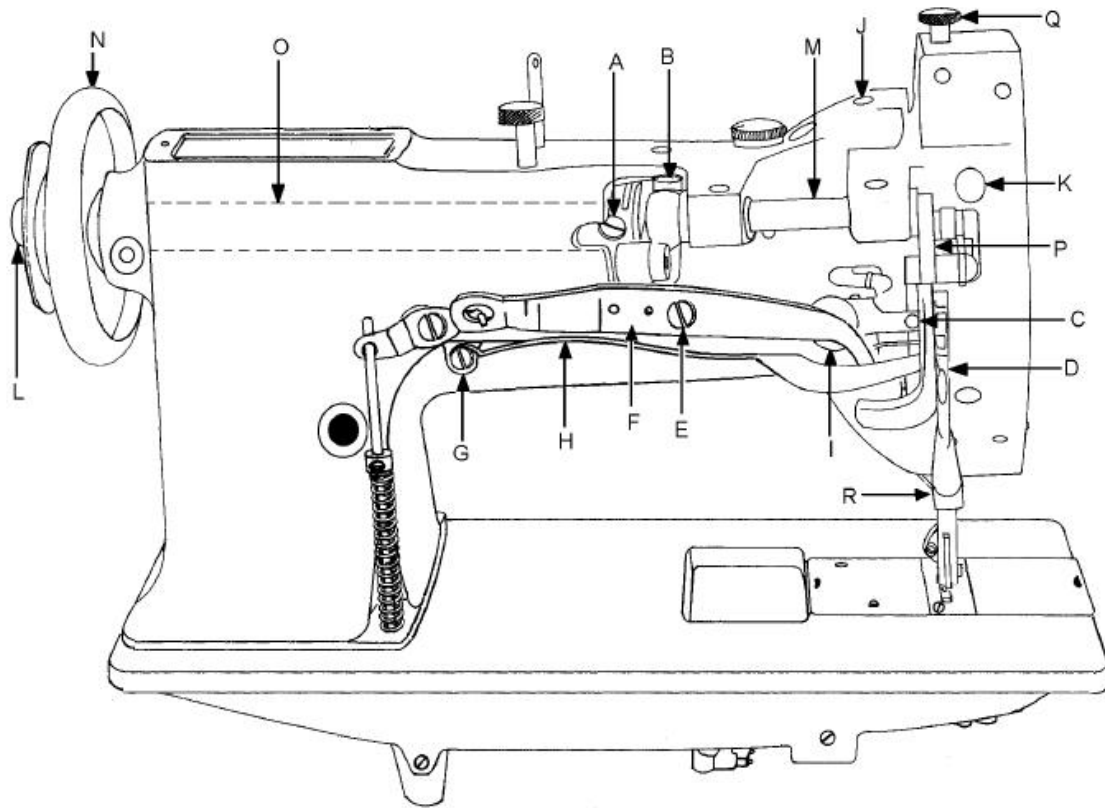

Figure 11: Rear view
- (1) Turn the balance wheel toward the operator until the presser-lifting eccentric lock screw (figure 10A [A]) is visible inside the opening at the back of the arm of the machine. (See figure 11 [A], table 4-3, foldout at end of this chapter.)
- (2) Loosen the lock screw and turn the balance wheel until the adjusting screw is visible in the opening in the back of the arm. (See figure 11 [A].)
- (3) Turn the adjusting screw counterclockwise to obtain maximum total lift of the pressers.
- (4) Turn the balance wheel toward the operator until the lock screw is visible in the opening in the back of the arm and retighten the lock screw.
- c. Loosen the presser-lifting link crank pinch screw (figure 11 [B]). The foot should snap down; if it does not, push it down.
To set the lifting linkage, loosen the lifting crank pinch screw (figure 11 [B]) and the presser bar lifting bracket pinch screw (figure 11 [C]). Turn the balance wheel toward the operator until the feed dogs rise to meet the forward presser foot at the top of the throat plate. Press the presser bar lifting bracket down to the hand-lifting lever (figure 11 [D]). Tighten the presser bar lifting bracket pinch screw (figure 11 [C]) and the lifting crank pinch screw (figure 11 [B]).